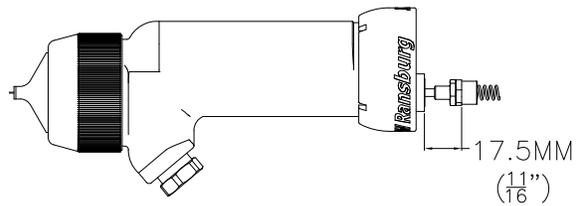

Figure 34: Trigger Adjustment Nut Dimensions
21. Adjust the needle shaft spring retainer until the rear of the hexagon is 11/16 inch from the rear surface of the barrel packing chamber (refer to Figure 34).